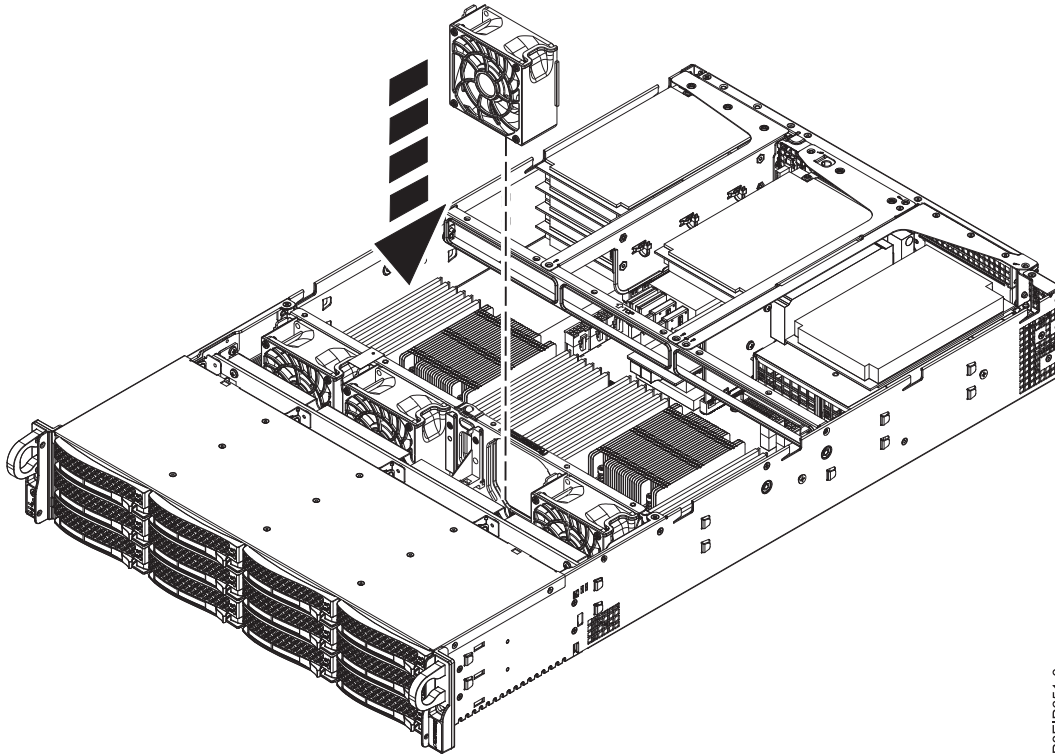

Figure 18. Replacing the fan
2. Lower the fan into the system and align the fan with the slots in the fan holder as shown in Figure 18 on page 20. Press the fan down until it snaps into place.